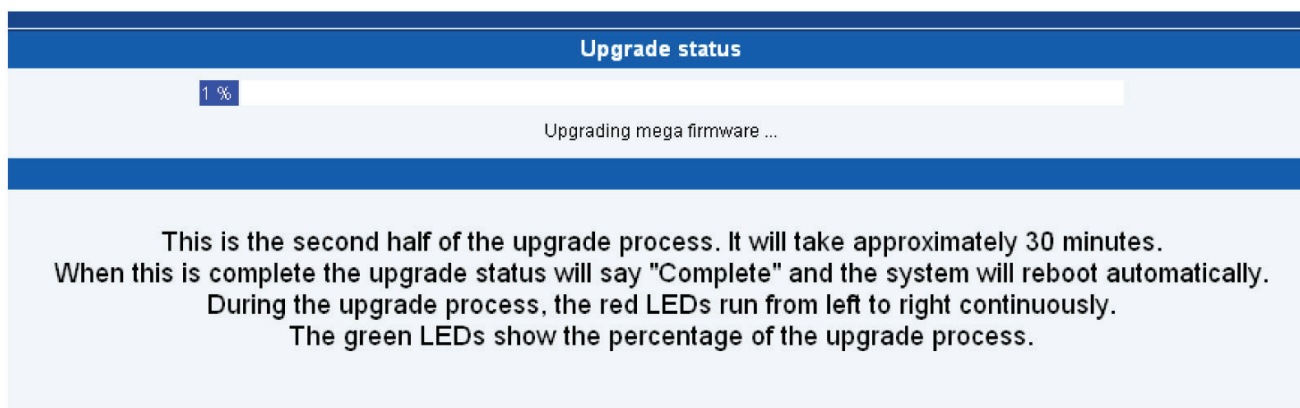

Figure 3-12. Upgrade Status screen.
6. During the process, you will see the messages shown in Figure 3-12.